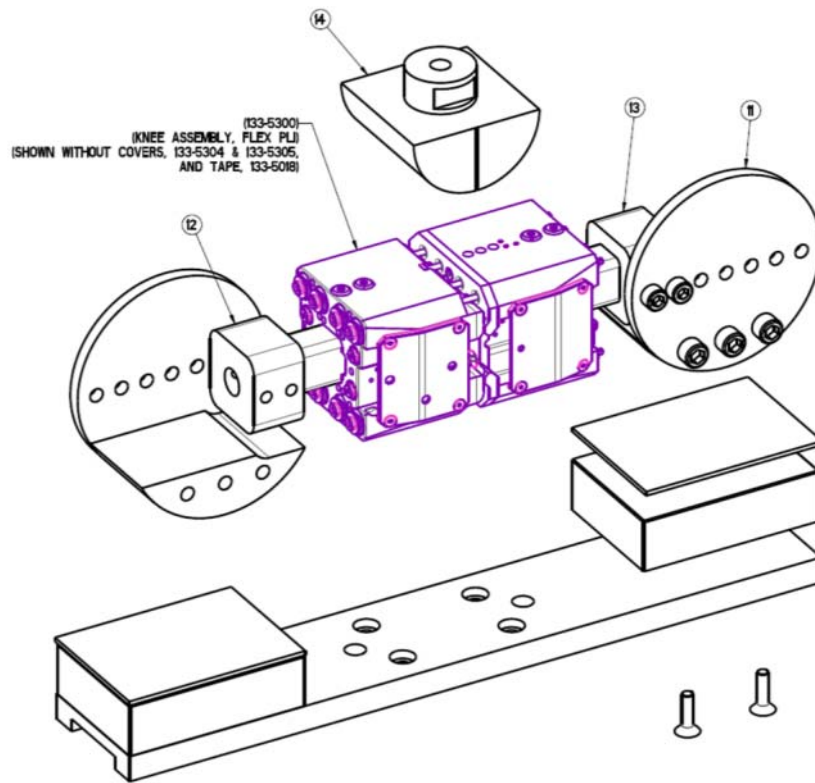
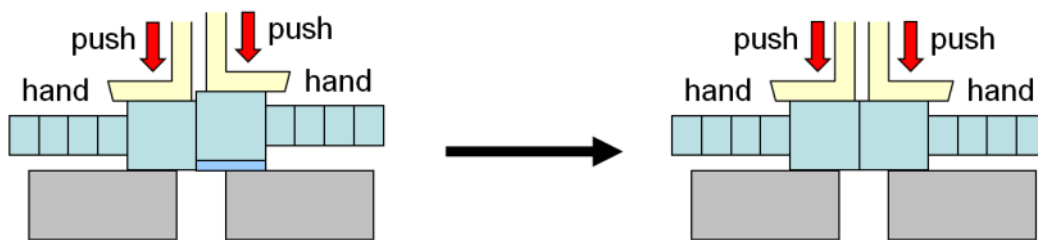

Figure 73. Static certification fixture 133-8120 showing knee
Figure 84 . Recommended method to align knee to remove any twist and shear
This operation requires the use of a materials testing machine with high definition load cell and some parts from calibration fixture 133-8120 see Figure 73. Temperature for this test must be between $20 \pm 2^\circ\text{C}$. Locate the femur insert into the femur knee block, the femur insert is 3mm longer than the tibia insert so it is important the correct insert is in the correct knee block or results will be wrong. Fit 2x M8 x 35 BHCS and tighten, then fit the 2x M8 x 30 set screws on the opposite side and torque all screws to 8 Nm. Follow the same procedure for the tibia insert. Assemble the fixture as shown ensuring the impact side is on the top and the two blue plastic covers have been removed along with the accelerometer if fitted and double sided tape. It is important to check that the two knee blocks are aligned before starting the test to remove any shear or twist in the assembly. A procedure like that used in figure 84 can be used and double checked with a straight edge.
The testing machine must be fitted with $\varnothing 100\text{mm}$ 'D' shaped profile part 133-8105, see Figure 73. The center of the profile must be aligned with the top of the meniscus; a line is marked on the loading profile for this visual alignment. Plug string pots into recording equipment. A piece of Neoprene minimum size $85 \times 50 \times 5\text{mm}$ thick is placed over the loading point to prevent damage to the knee. The 85 mm dimension is the knee width dimension. This Neoprene is the same material used in the covers. The loading profile is brought down to contact the Neoprene at the zero load point. Then the test loading is started.
The dynamic pendulum certification test is carried out on the Dynamic Certification Test Rig, Part Nr 133-8400, as diagrammatically shown in Figure 73. Only 7 channels are required and must meet the proposed GTR9 requirement see Table 17. For assembly instructions of the test rig refer to 7.2.
Step 4: Check knee blocks are aligned to ensure knee is not twisted or in a shear condition before the test. Using two equal height blocks push down on the back of the knee for y direction and also on one side of the knee for x direction as shown in picture below. A straight edge can be used to double check alignment after any adjustment. See Figure 84;
Step 4: Check knee blocks are aligned to ensure knee is not twisted or in a shear condition before the test. Using two equal height blocks push down on the back of the knee for y direction and also on one side of the knee for x direction as shown in picture below. A straight edge can be used to double check alignment after any adjustment. See figure 84.